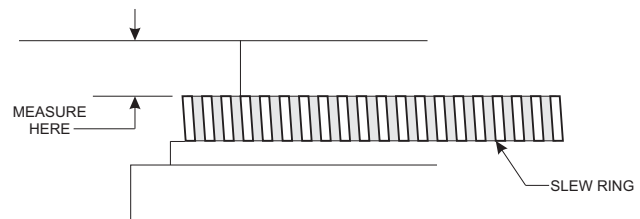

Figure 3-4. Slew Ring Position Measurement
- ❑ With the boom lift fully retracted, measure the distance between the slew ring gear and the horizontal plate above. Use a 2-inch (50 mm) caliper or bore micrometer. Record the measurement (Figure 3-4).